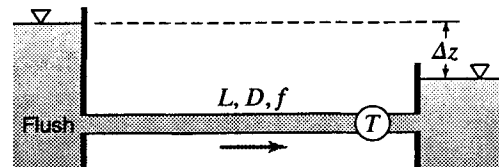

Figure P8.73
8.73 In a testing laboratory, a certain turbine has been found to discharge 10 cfs under a head  $h_t$  of 45 ft. In the field, it is to be installed near the end of a pipe 360 ft long (Fig. P8.73). The supply line (flush entrance) and discharge line (submerged exit) will both have diameters of 10 inches with  $f = 0.025$ . The total fall from the surface of the water at intake to the surface of the tailwater will be 52 ft. What will be the head on the turbine, the rate of discharge, and the power delivered to the flow? Note that for turbines,  $Q \propto \sqrt{h_t}$  (from Eq. 16.17).